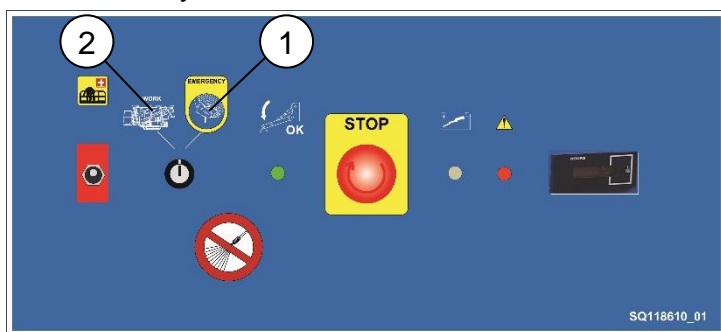

fig. 4.6.1
2. Rotate the selector switch to the "Emergency controls" position (*pos. 1 fig. 4.6.1*)
3. press the valve knob that controls the lifting of the telescopic boom and simultaneously operate the proportional speed control lever (P) until the enclosure is raised by about half a metre;